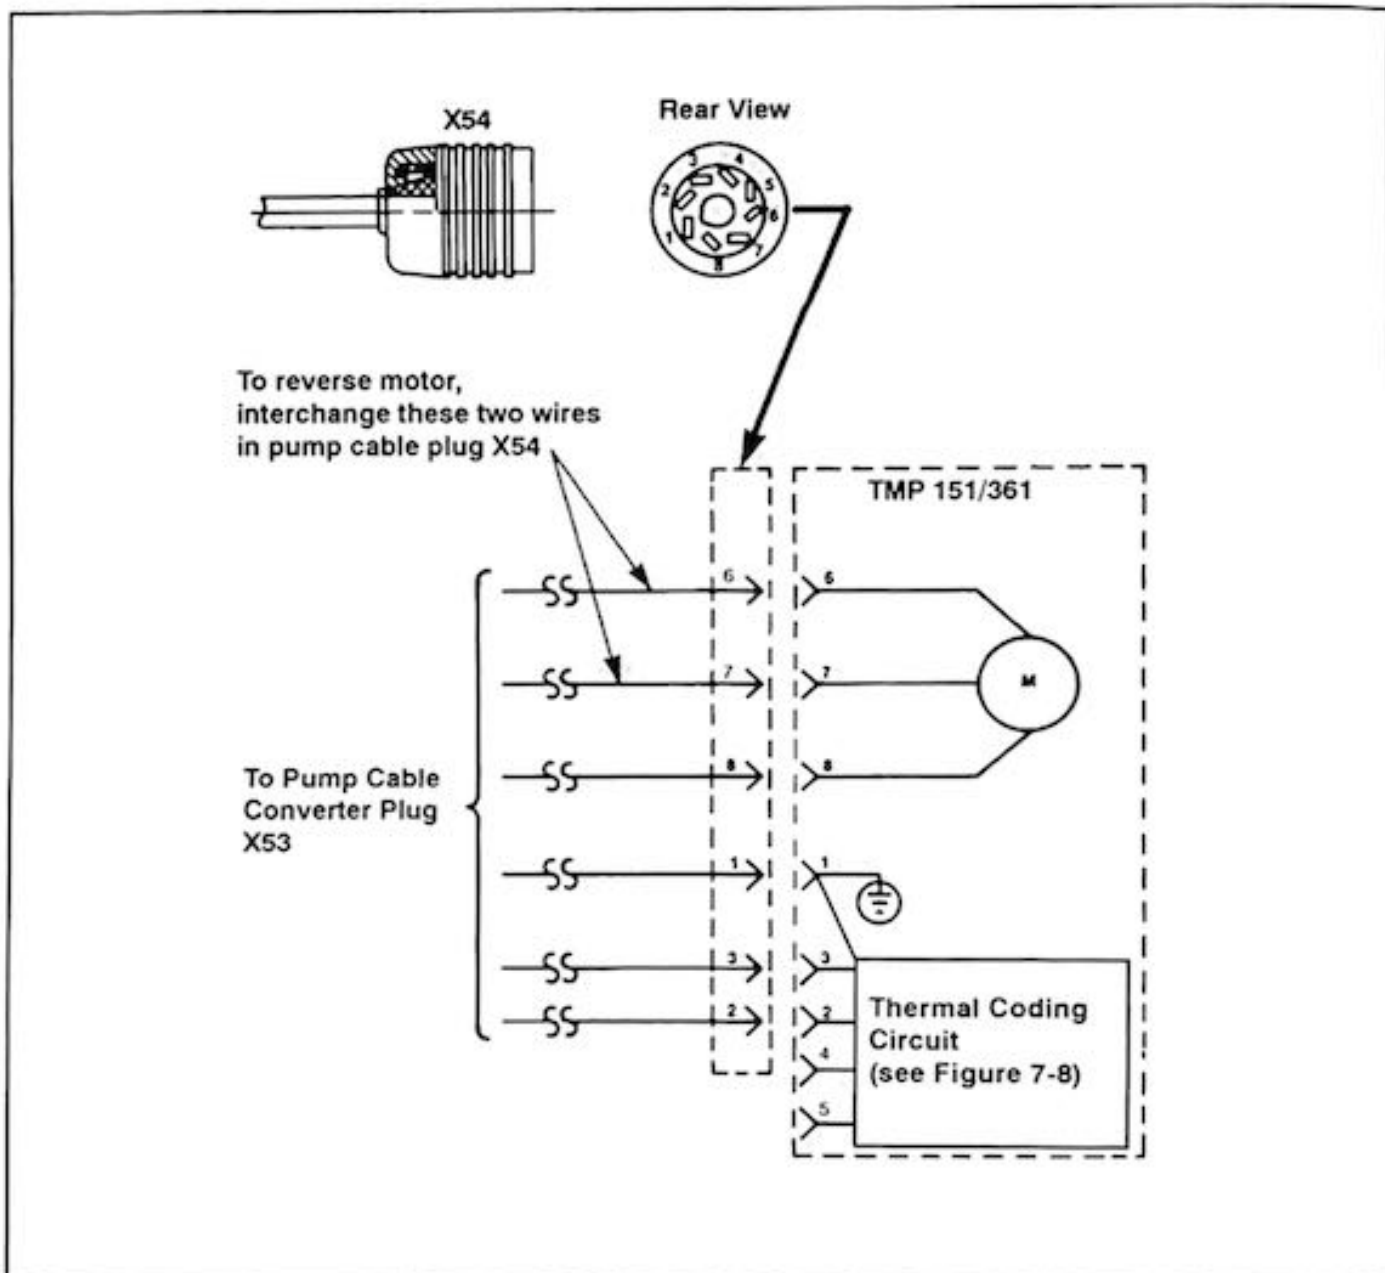

Figure 2-4. Rewiring the Pump Cable to Change the Rotation
- c. Interchange the wires connected to plug terminals 6 and 7 (see Figure 2-4).